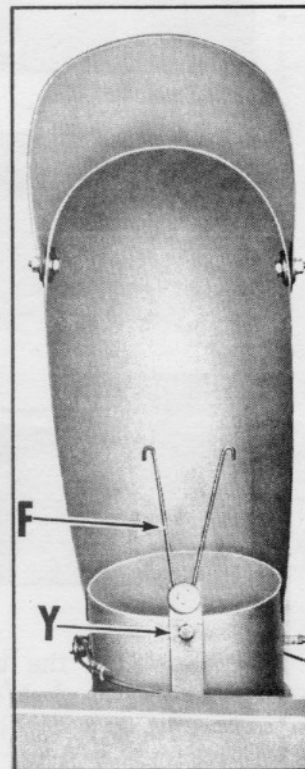

Fig. 23
Install finger deflector as shown (Fig. 23) with cap screw claw washer and nut; tighten securely. Thread 1/2" stop bolt through hole (Y) in stack; secure with hex. nut.